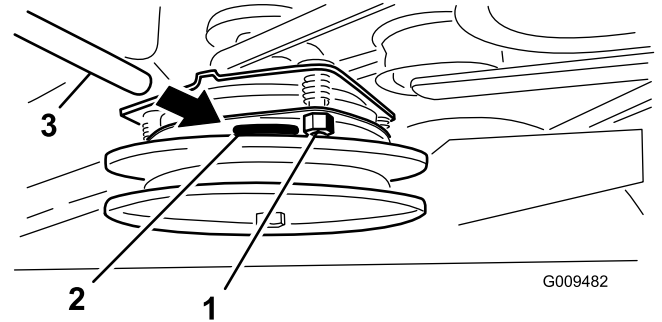

Figure 62
- If adjustment is needed, use a .015 inch (0.381 mm) feeler gauge to set each of the three adjustment slot positions. Tighten the lock nuts until there is slight binding on the feeler gauge but it can be moved easily within the air gap (Figure 62).